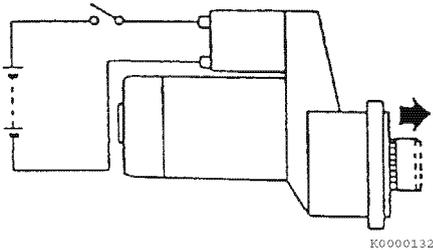

Figure 11-33
4. Turn the switch ON and measure the pinion moving distance L in the thrust direction (**Figure 11-33**). Perform this test within 10 seconds. See *Starter Motor Specifications on page 11-5 for the service limit.*